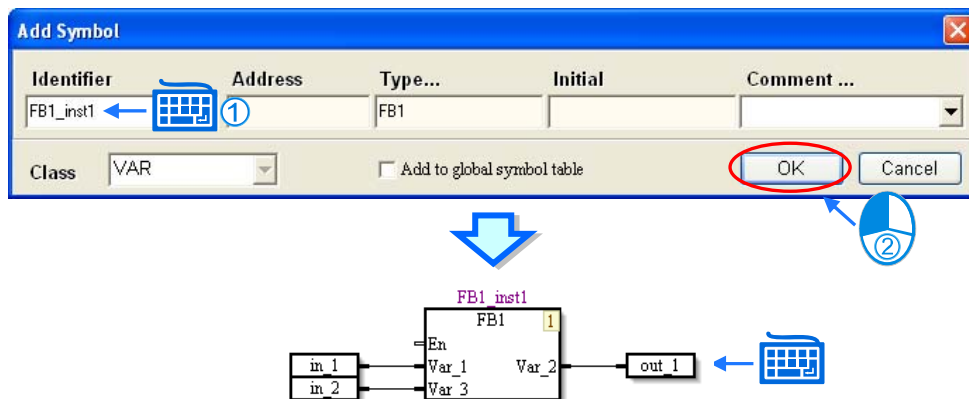

Figure 12-32 Typing a function block definition
- (2) The users have to type a function block instance in the **Add Symbol** window. (The users have to create a symbol whose data type is a function block.) Then, the users have to click **OK**, or press Enter on the keyboard. If the users move the mouse cursor and click a position in the program editing area, a function block will be inserted. Finally, the users have to assign devices or symbols to the pins of the function block inserted. Please see figure 12-32.